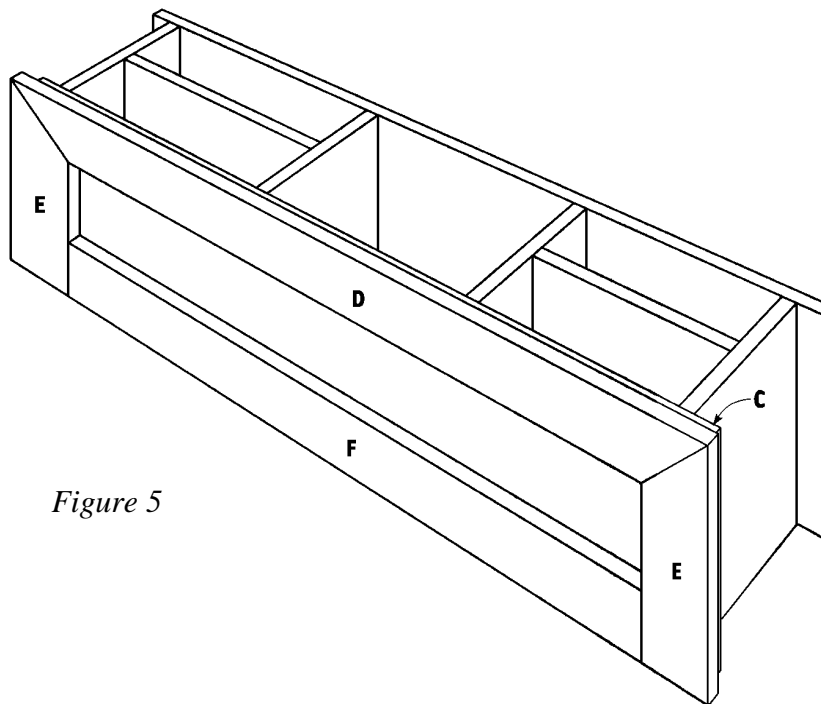

Figure 5
- Place the Front Trim (D) over the edge of the Top/Bottom (C), as shown in *Figure 5*. The Front Trim (D) should overhang the Top/Bottom (C) by 1 inch on the front and both sides. Apply glue to the meeting surfaces, and screw through the Front Trim (D) into the Top/Bottom (C) using 1-5/8" wood screws spaced every 5 inches.
6. Place one Side Trim (E) over the ends of the Top/Bottom (C), with the miter toward the Front Trim (D), as shown in *Figure 5*. The trims should overhang the sides by 1 inch. Apply glue to the meeting surfaces, and screw through the Side Trim (E) into the Top/Bottom (C) using three 1-1/4" wood screws.
7. Repeat Step 6 to attach the remaining Side Trim (E) to the opposite end of the Top/Bottom (C).
8. Cut one Back Trim (F) from 1 x 4 pine measuring 35 inches.
9. Fit the Back Trim (F) between the two Side Trims (E), flush with the back edge of the Top/Bottom (C), as shown in *Figure 5*. This piece does not overhang. Apply glue to the meeting surfaces, and screw through the Back Trim (F) into the Top/Bottom (C), using 1-5/8" wood screws spaced every 5 inches.